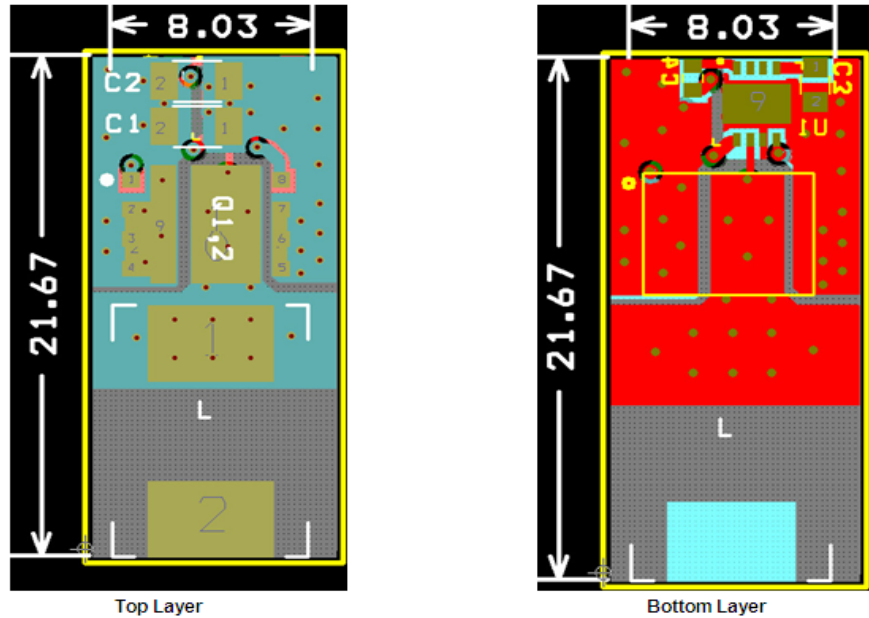

Figure 31. Recommended PCB Layout
2. The PHASE copper trace serves two purposes; In addition to being the current path from the Power Stage package to the output inductor (L), it also serves as heat sink for the lower FET in the Power Stage package. The trace should be short and wide enough to present a low resistance path for the high current flow between the Power Stage and the inductor. This is done to minimize conduction losses and limit temperature rise. Please note that the PHASE node is a high voltage and high frequency switching node with high noise potential. Care should be taken to minimize coupling to adjacent traces. The reference layout in Figure 31 shows a good balance between the thermal and electrical performance of Power Stage